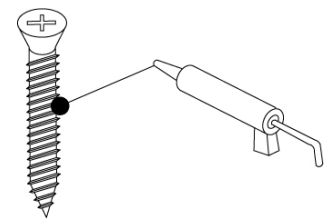

FIG.2A
4. Apply silicone to 3/4" screw (#18) threads. [SEE FIG.2A]